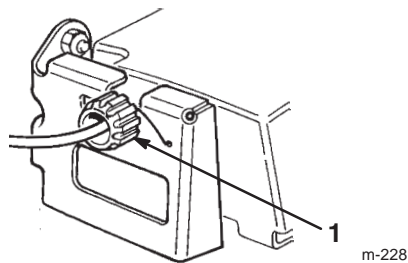

Figure 23
If the lawn mower does not self-propel or has a tendency to creep forward when the control bar is **more** than 1-1/2 inches (3.8 cm) from the handle, adjust the wheel drive control knob on the rear of the gear box (Fig. 23).
2. Rotate the control knob clockwise 1/2 turn if the lawn mower does not self-propel. If the lawn mower creeps forward, rotate the knob 1/2 turn counterclockwise (Fig. 23).